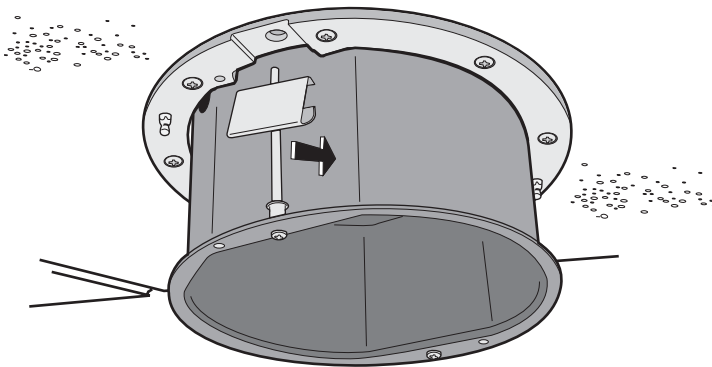

Figure 5. Installing the Heavy-Duty In-Ceiling Back Box
10. Install the back box by compressing the spring clips and pushing the back box through the hole (refer to Figure 5).